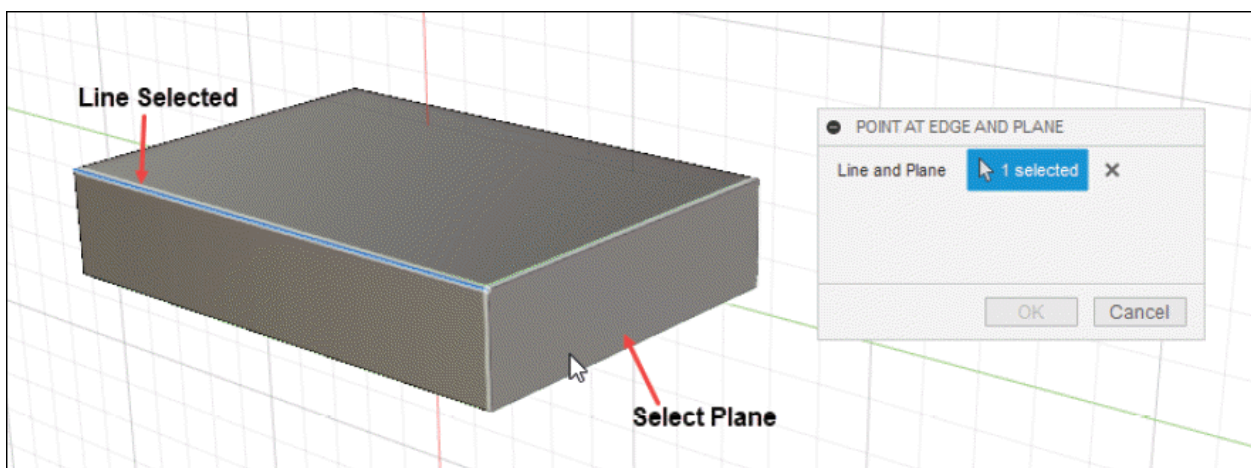

Figure-138. Selection of edge and plane
- Select the edge and plane/face to create a point at the intersection; refer to Figure-138.